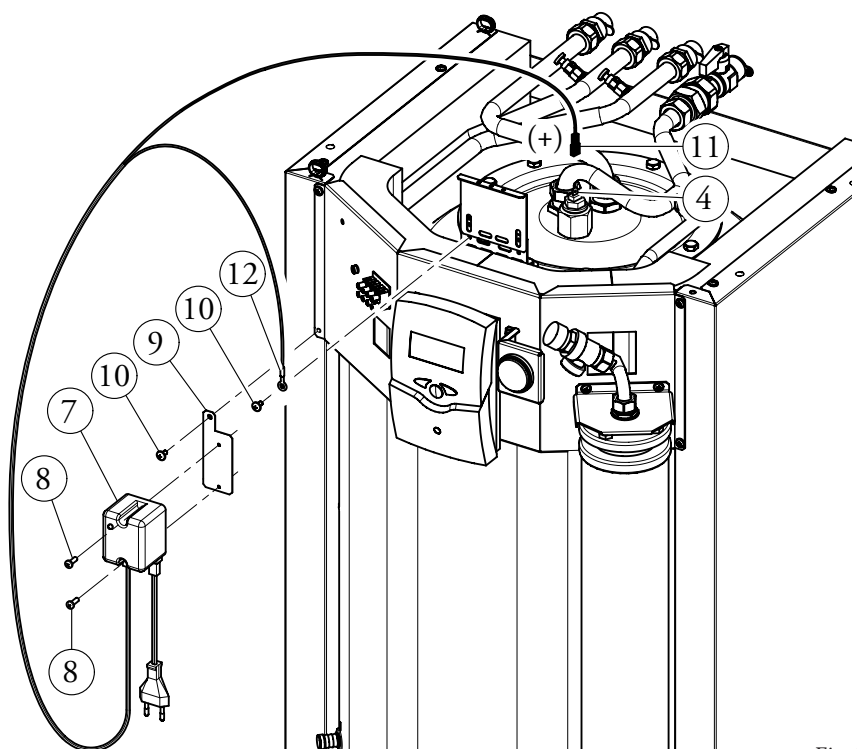

Fig. 2
- Assemble the control unit (7) with the screws (8) on the fixing plate (9) (Fig. 2).
- Assemble the plate (9) on the storage tank / cylinder using the screw (10).
- Make the earthing connection with black cable (12) on the storage tank / cylinder using the screw (10).
- Connect the red cable connector (11) to the faston on the anode (4).
N.B.: The connector (11) can be replaced with the flag connector supplied with the relative protection in order to improve connection with the anode and reduce its clearance.